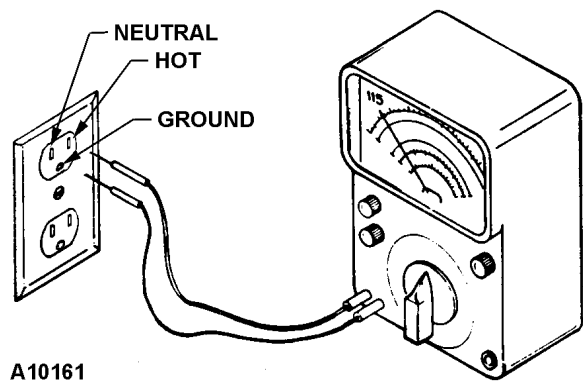

FIGURE 2. Electrical Check with Voltmeter
When the AC Voltmeter probes are connected to the **HOT** and **NEUTRAL** terminals, the voltmeter should indicate 110 to 130 volts AC. See Figure 2.
When the AC Voltmeter probes are connected to the **HOT** and **GROUND** terminals, the voltmeter should indicate 110 to 130 Volts AC. See Figure 2.
When the AC Voltmeter probes are connected to the **NEUTRAL** and **GROUND** terminals, the voltmeter should indicate 0 Volts AC. See Figure 2. Any voltage reading could cause noise problems in the electronic controller.
In a standard three (3) prong 115 Volt AC wall outlet the **GROUND** pin is round, the **NEUTRAL** pin is rectangular and located clock-wise from the ground pin and the **HOT** pin is rectangular and smaller than the neutral pin and located counterclockwise from the ground pin. See Figure 2.